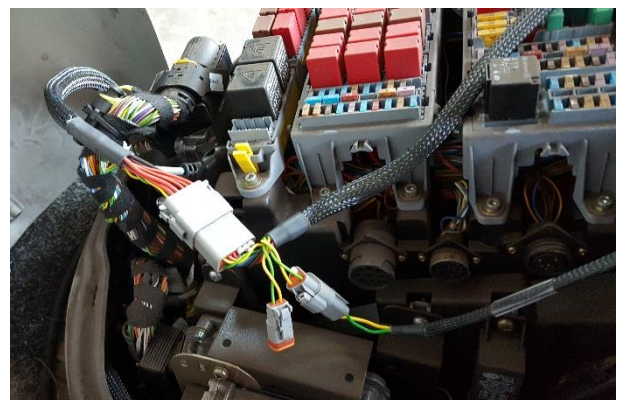
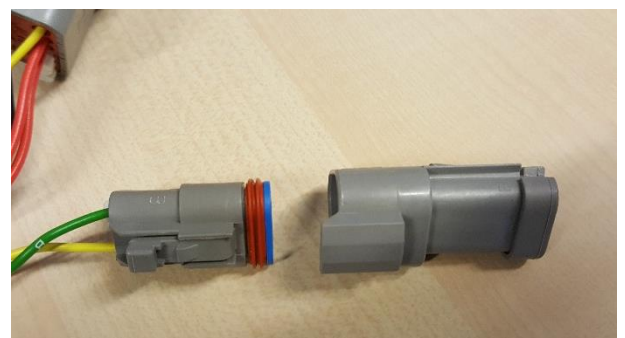

Figure 6 Extension harness = left, terminal harness = right top, Deutz-Fahr AgroSky harness = right bottom.
Figure 7 Disconnected terminator.
4. Harness In-Cab Terminal: this harness connects the In-Cab harness (DynamIQ ISO) and the terminal. This harness is also connected with the Deutz-Fahr AgroSky harness (Figure 6). First disconnect the CAN terminator (Figure 7) to be able to connect the Deutz-Fahr AgroSky harness.